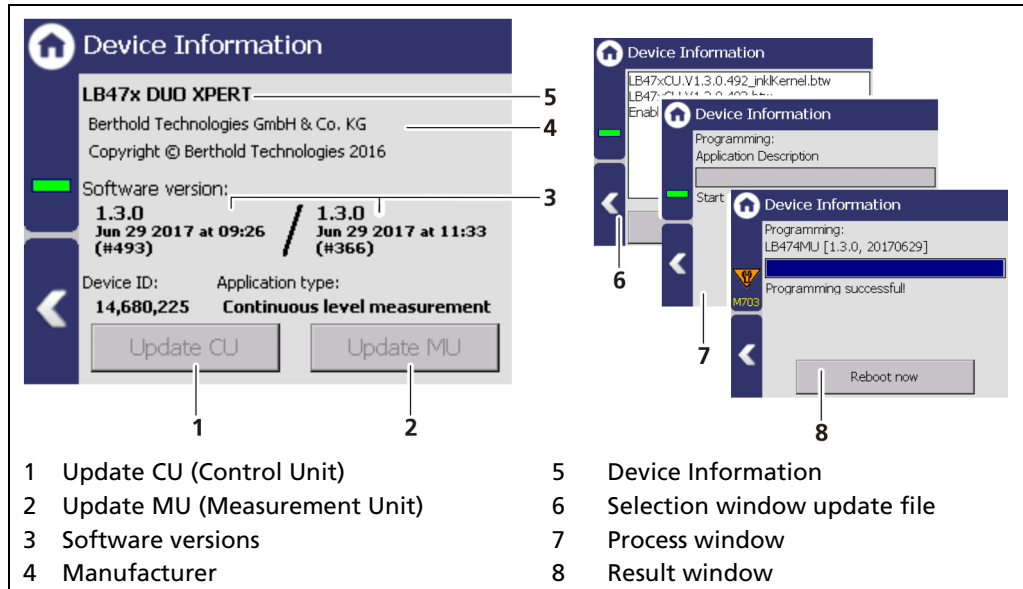

Fig. 34 Device Information
4. The USB storage device is recognised by the system after a few seconds and the < CU Update > (Fig. 34, item 1) button can be clicked.
- ▶ The selection window "update file" (Fig. 34, item 6) opens.
5. Select the appropriate file and click on the button < CU Update > (Fig. 34, item 1). Confirm with < Yes >.
4. The USB storage device is recognised by the system after a few seconds and the < MU Update > (Fig. 34, item 2) button can be clicked.
5. Select the appropriate file and click on the button < MU Update > (Fig. 34, item 1). Confirm with < Yes >.